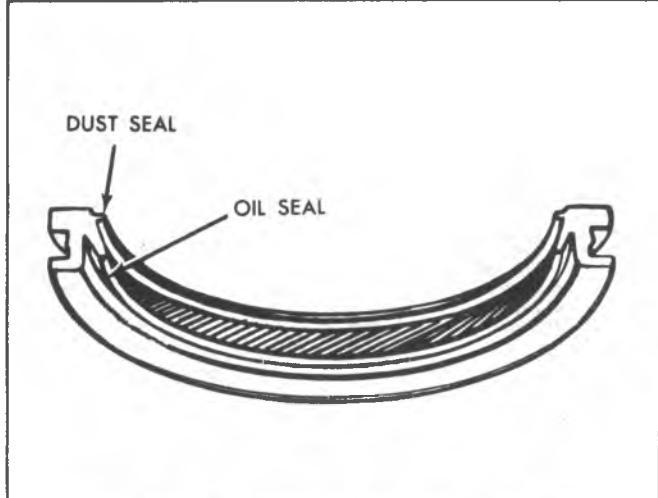

Fig. 6A1-37-Crankshaft Oil Seal - Rear Main
8. Position seal between crankshaft and tip of tool so that seal bead contacts tip of tool. Make sure that oil-seal lip is positioned toward front of engine (fig. 6A1-37).